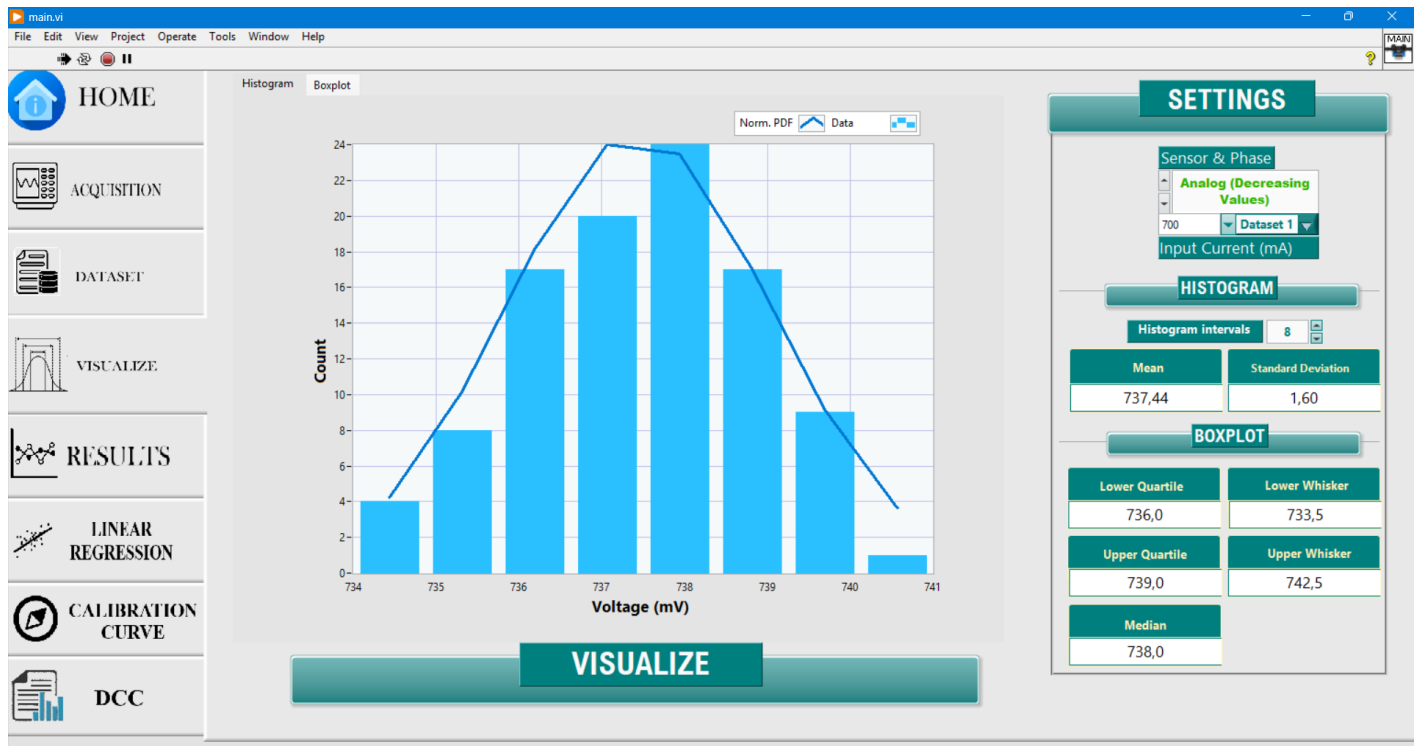

Figure 22: Visualize Tab
Step 9) Select the *VISUALIZE* tab. Locate the *Sensors & Phase* Menu Ring, illustrated in Figure 22. Select the desired dataset and the feature column used to generate the dataset, by varying the *Input Current mA]* numerical control. Locate the *Histogram Interval* numerical control. Select the desired number of *bins* used to generate the histogram.